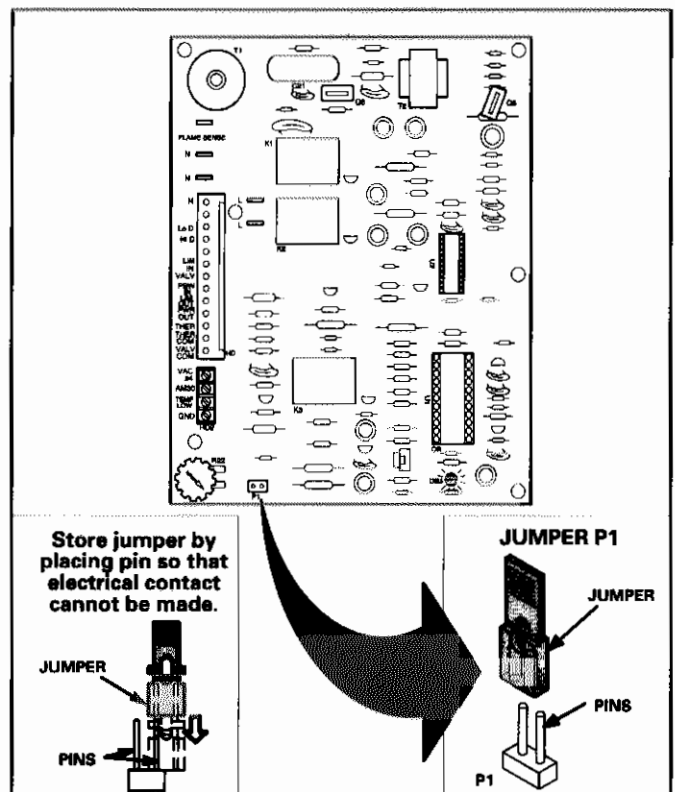

FIGURE 13
- ☐ If water temperatures above 140°F are required, a jumper located on the heat module control board must be removed (see figure 13). An anti-scald valve must be installed in the domestic water piping if temperature is adjusted above 140°F.